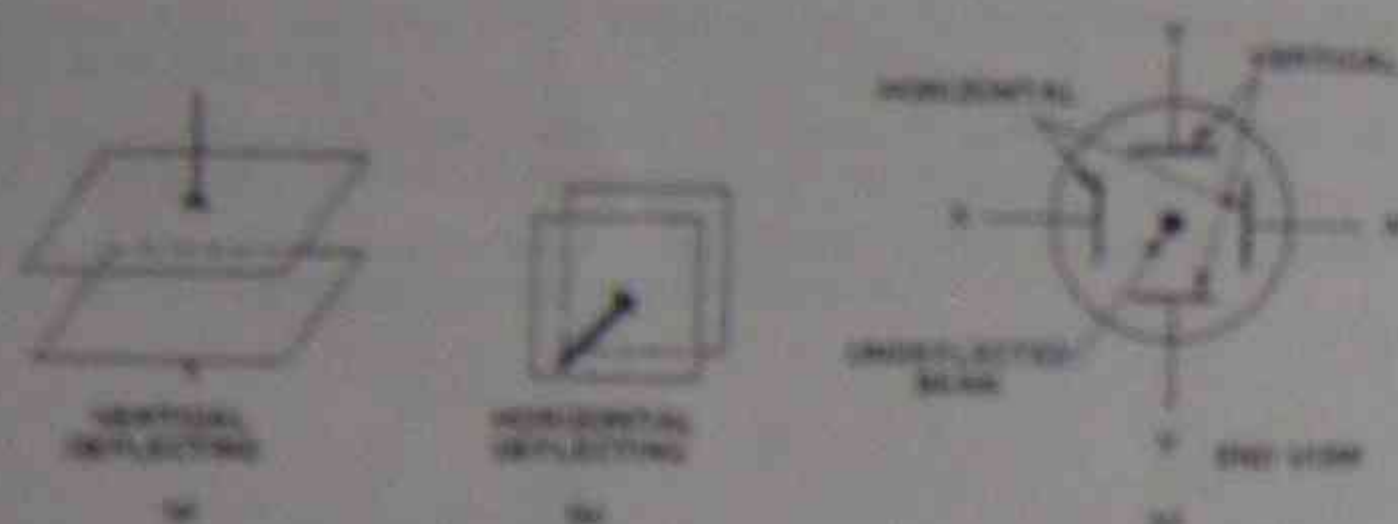

FIG. 6. DEFLECTING PLATES.
4.1 ELECTROSTATIC DEFLECTION of the beam is achieved by passing the beam through two sets of deflecting electrodes called the deflecting plates (Fig. 6). With no voltages applied to the deflecting plates the spot assumes a central position on the screen, as shown in Fig. 6C. Voltages applied between the plates deflect the beam away from the negative plate toward the positive plate, thus moving the spot on the screen. The deflecting plates are located in the I.F.T. in such a position that the beam passes between them, after being focused.